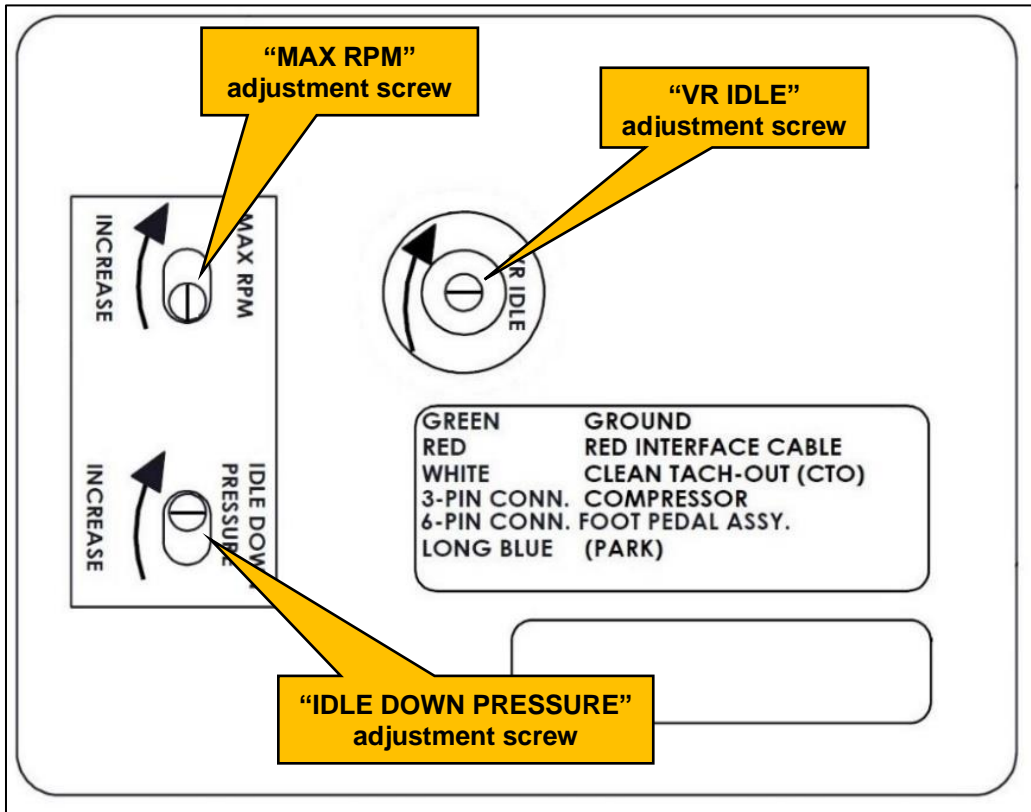

Figure 1
- Locate the "MAX RPM" and "VR IDLE" adjustment screws located on the Throttle Control (Figure 1).